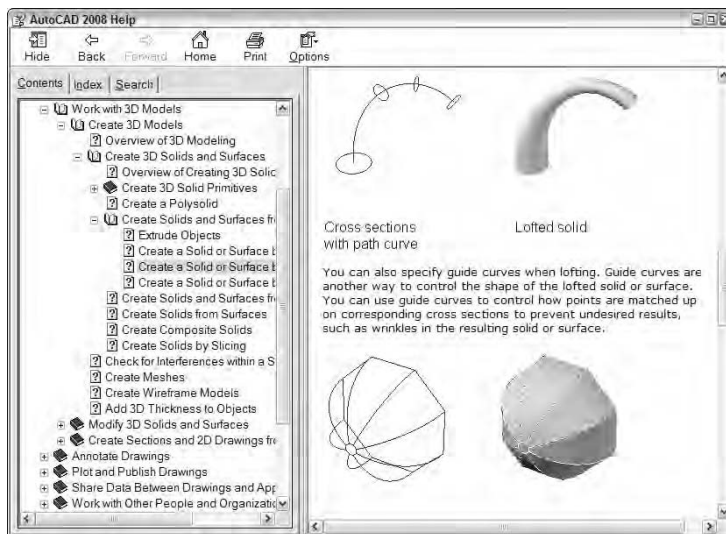

Figure 9-12:
- ✓ **Online help system:** Choose Help⇨Help or press the F1 key. In the left pane of the Help window, expand User's Guide and then click Work with 3D Models. Figure 9-12 shows a help section on lofts and sweeps. (I know, once upon a time this would have been in a printed manual!)